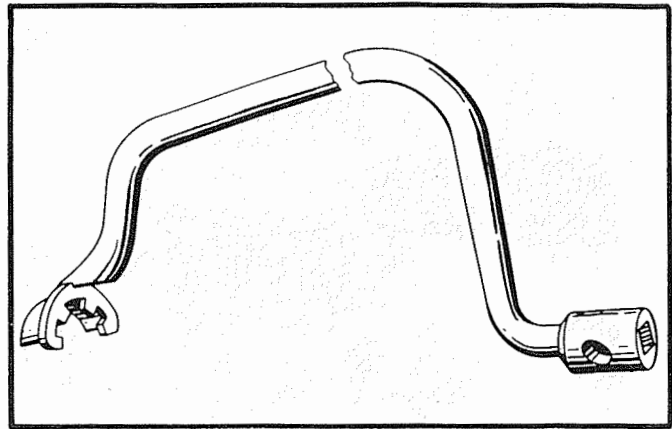
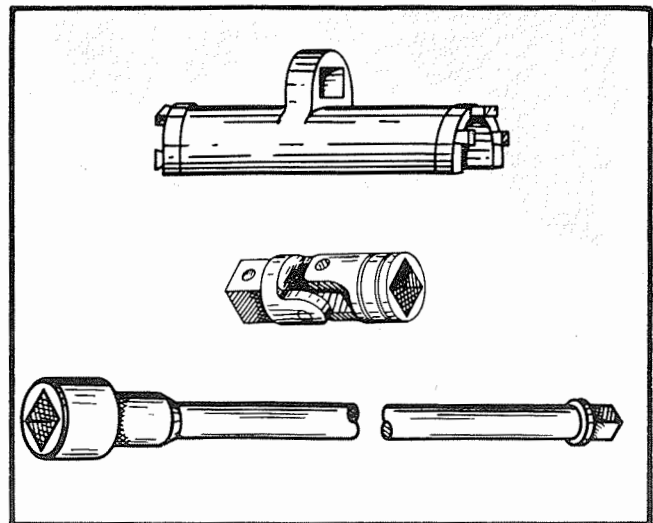

Figure 7-50. Push Rod Housing Inner Nut Wrench
Figure 7-51. Push Rod Housing Nut Wrench, Universal Joint, and Extension
d. Loosen the nut at the adapter using wrench 805965, (figure 7-50). Use wrench 806487, universal joint 806517, and extension 806518 (figure 7-51) on rear cylinders when intake pipes interfere. Do not disconnect the nut from the adapter.